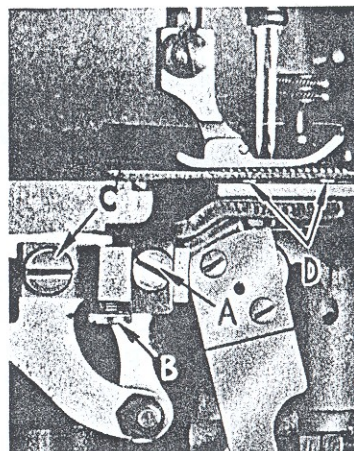

Fig. 7
The feed dog holder attaching screw (A, Fig. 7) should be loosened slightly, and regulating screw (B) should be turned either clockwise to raise the feed dog, or counterclockwise to lower it. Make sure that the bottom of the shank of the feed dog holder rests against the head of the regulating screw.
The feed dog holder attaching screw (A, Fig. 7) should be loosened slightly, and regulat-